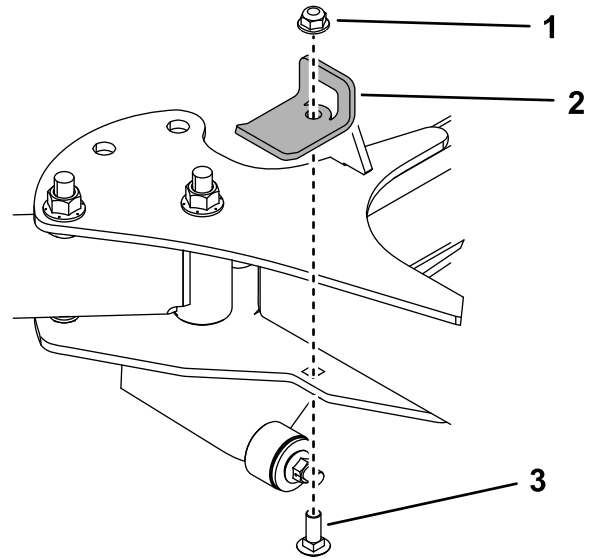

Figure 9
5. Use a carriage bolt (3/8 x 1 inch) and a locknut (3/8 inch) to install the stop brackets to both sides of the machine (Figure 9). Torque the bolt to 37 to 45 N·m (27 to 33 ft-lb).